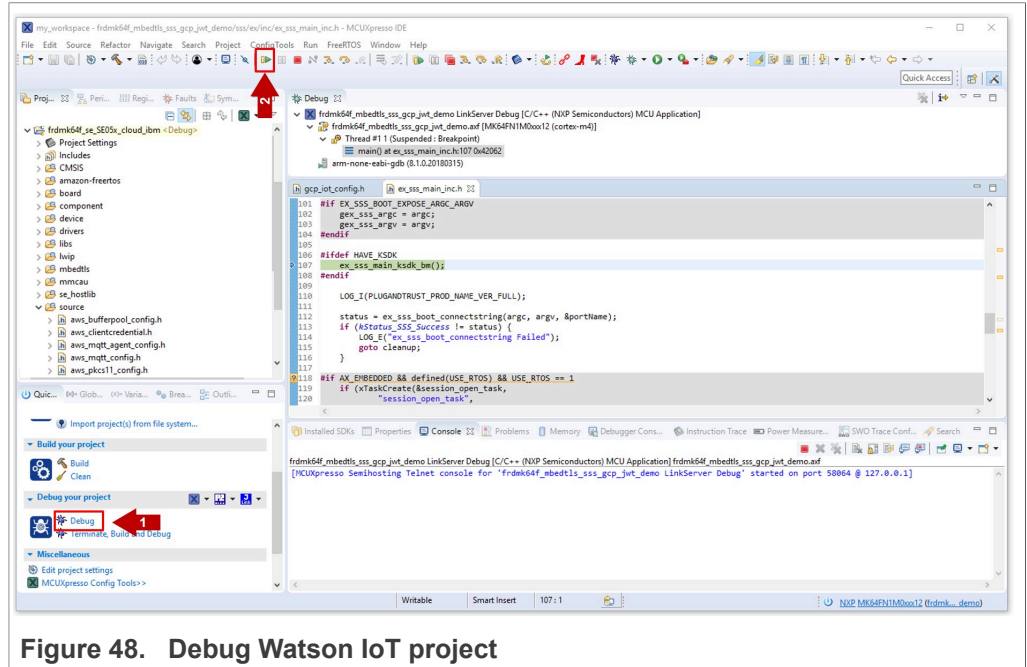

Figure 48. Debug Watson IoT project
- 3. Go to the MCUXpresso Quickstart Panel and click **Debug** button, wait a few seconds until the project executes and click on **Resume** to allow the software to continue its execution as shown in Figure 48: